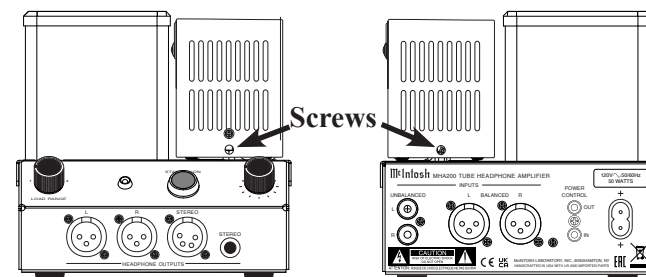

Figure 01— Tube cover screws
- Use a Phillips Head #2 screw driver to remove the two screws that hold the Tube Cover (see Figure 01)
- Replace the two screws to secure the cover to the Tube Cover Retaining Posts (see Figure 01)